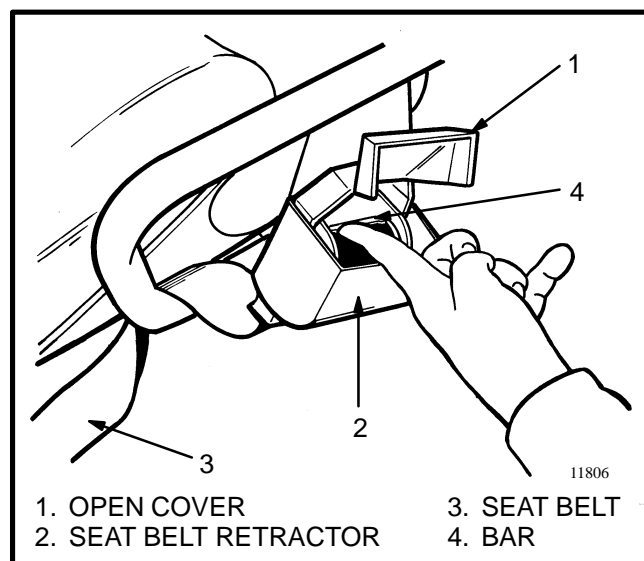
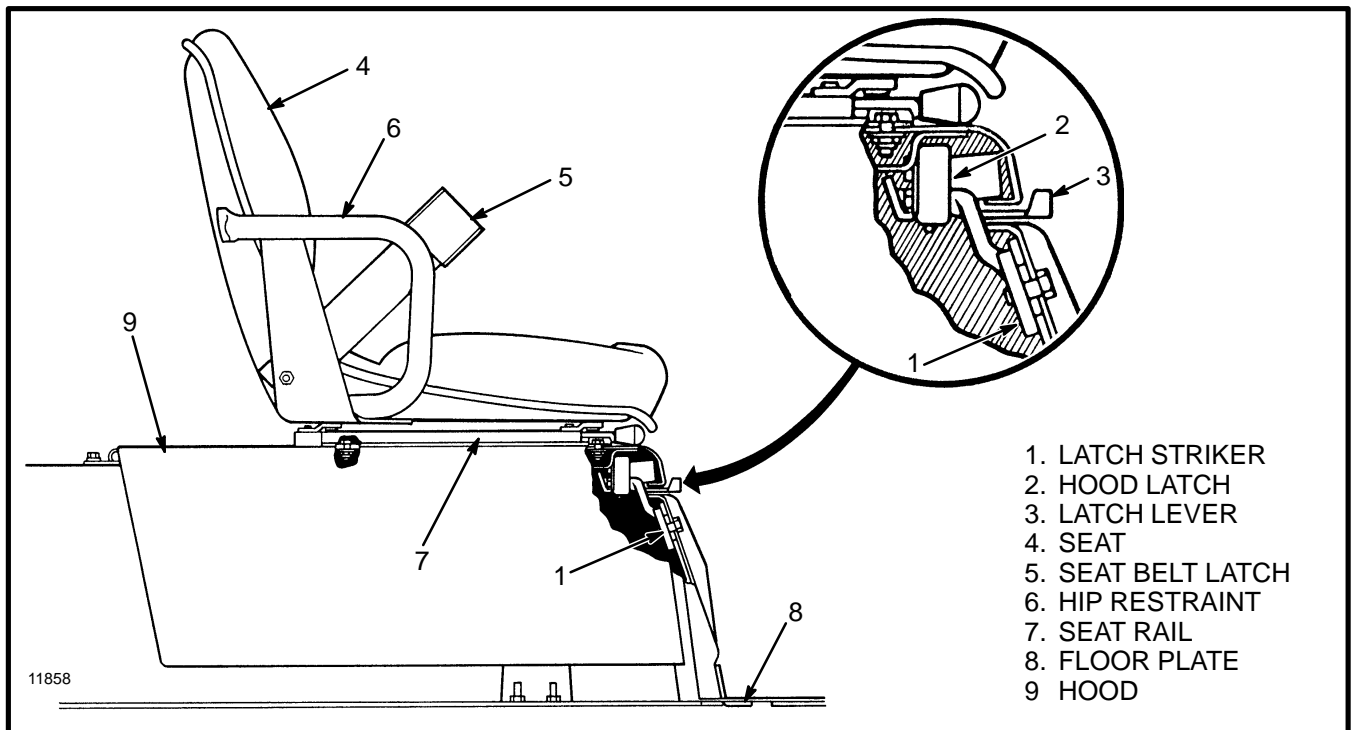

FIGURE 4. RELEASE A JAMMED SEAT BELT
FIGURE 5. CHECK THE HOOD AND SEAT LATCHES
2. See FIGURE 5. Use the following procedure to adjust the hood latch:
OPERATOR RESTRAINT SYSTEM (See FIGURE 4. and FIGURE 5.)
The end of the seat belt must fasten correctly in the latch. Make sure the seat belt pulls from the retractor assembly and retracts smoothly. The seat belt must be in good condition. A seat belt that is damaged or worn will not give protection when it is needed. If the seat belt can not be pulled from the retractor assembly, remove the screw that keeps the cover on the retractor. Push the bar to release the spool. Straighten the belt so that it will pull and retract smoothly from the retractor assembly. See FIGURE 4.
See FIGURE 5. Make sure the seat rails and latch striker are not loose. The seat rails must lock tightly in position, but move freely when unlocked. The seat rails must be correctly fastened to the mount surface. If the mount surface is the hood, the hood must be fastened to the floor plate with the latch. The floor plate must be fastened to the lift truck frame. Try to lift the hood to make sure it is fastened correctly and will not move.